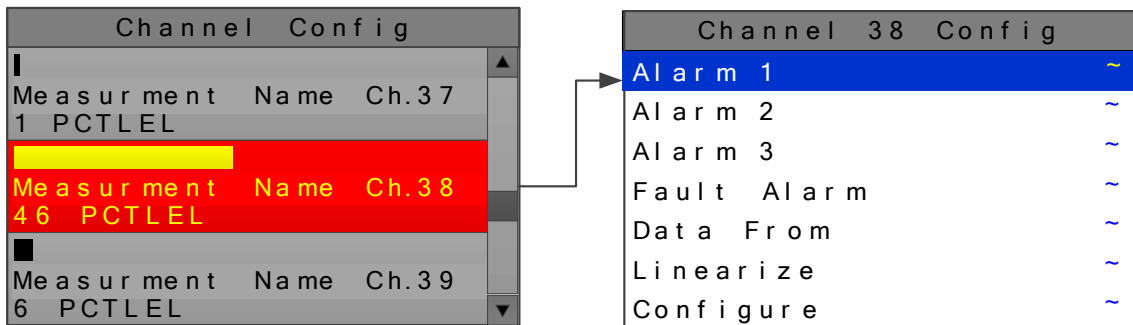

Figure 2-13
**CHANNEL CONFIGURATION** entry menu, shown on left in Figure 2-13; use  /  to scroll up or down to select the channel that is to be configured. Once the